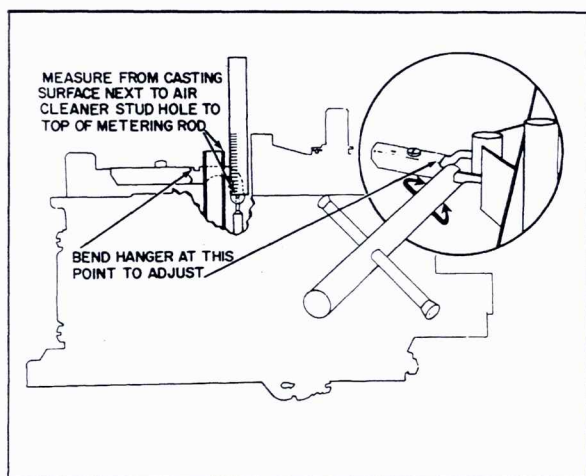

Fig. 6-85 Secondary Metering Rod Adjustment
88. Secondary Metering Rod Adjustment (Fig. 6-85)
1. To check secondary metering rod adjustment, measure from top of metering rod to top of air horn casting next to air cleaner stud hole, as shown in Fig. 6-85. This dimension should be .840 or approximately $27/32$ for all carburetors.
2. If adjustment is necessary, bend metering rod hanger with pliers at point shown in Fig. 6-85. Make sure both rods are adjusted to same dimension.